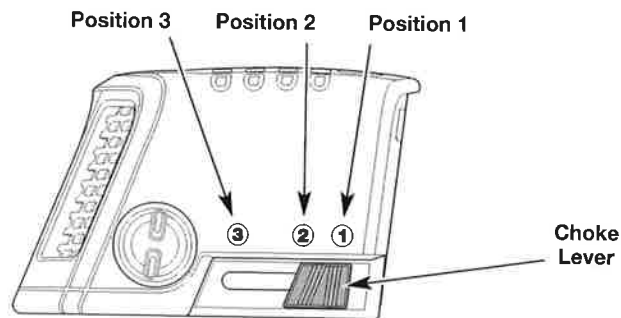

Fig. 10
4. Move the choke lever to **Position 1** (Fig. 10).
7. Continue to squeeze the throttle control. Move the choke lever to **Position 2** (Fig. 10).
10. Continue to squeeze the throttle control. Move the choke lever to **Position 3** (Fig. 10) and continue warming the engine for an additional 60 seconds. The unit may be used during this time.
8. Continue to squeeze the throttle control. Move the choke lever to **Position 2** (Fig. 10).
12. Continue to squeeze the throttle control. Move the choke lever to **Position 3** (Fig. 10) and continue warming the engine for an additional 60 seconds. The unit may be used during this time.